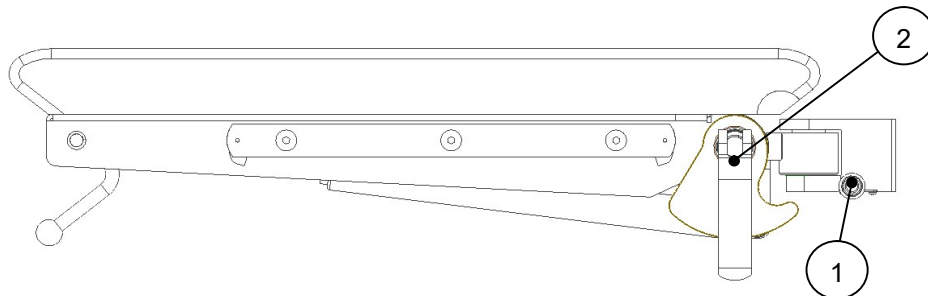

Fig. 11 Operating Table Footrest (1- Button, 2- Footrest Movement Lever)
To change the spread angle of the footrest within the range specified in the parameters above, release – lift up – the lever (fig. 11, pos. 2). After having rotated the footrest to the desired angle (within the
In case of loosening of the handle clamp, adjust the clamping force using the handle nut – it will secure the lock (fig. 11, pos. 2).